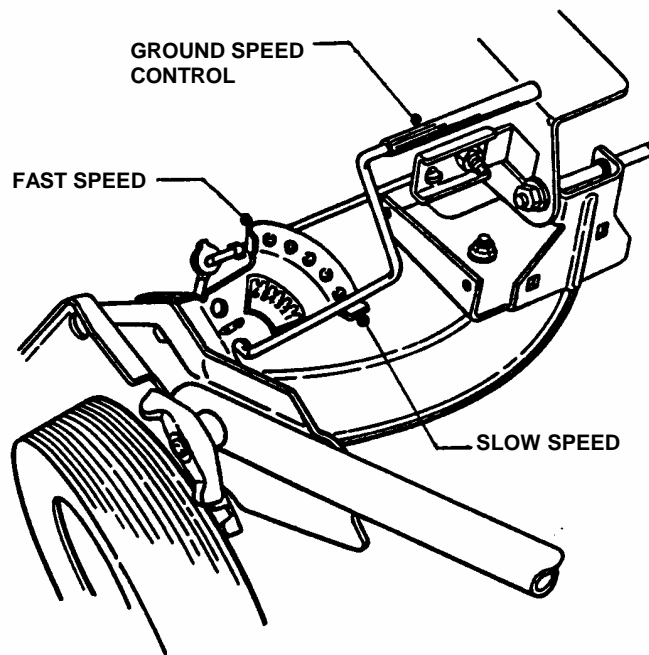

FIGURE 2.5
1. Move ground speed control to the desired speed position. See Figure 2.5.